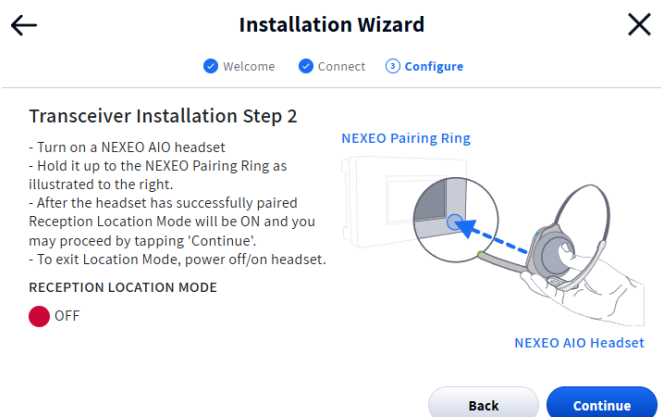
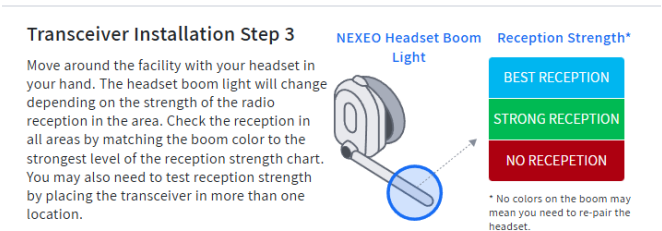
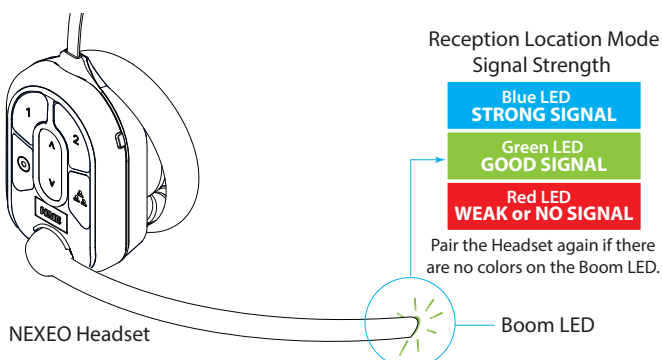

Fig. 2.7
Fig. 2.8
Fig. 2.9
10. **Critical Step:** During the **Configure** stage of the Installation Wizard, **Transceiver Installation Step 2** prompts you to use a paired headset in **Reception Location Mode** (Fig. 2.7). After pairing a headset, the Reception Location Mode indicator changes from **OFF** to **ON** (Fig. 2.8). Tap **Continue** to proceed to **Transceiver Installation Step 3**. Walk through all areas where the headset will be used to verify signal coverage. The Boom LED flashes different colors to indicate signal strength. The NEXEO screen displays the same color-coded information (see Fig. 2.9). Reposition the Remote Transceiver as needed to achieve optimal coverage.